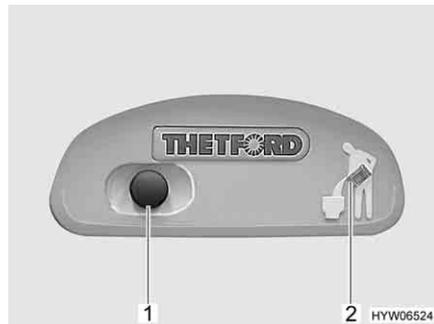
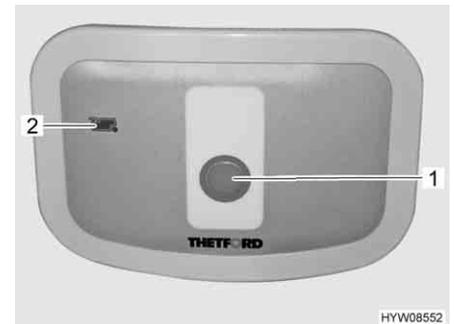

Fig. 252 Flush button/indicator lamp Thetford toilet
Fig. 253 Flush button/indicator lamp Thetford toilet (alternative)
- For flushing, press the blue flush button (Fig. 252,1 or Fig. 253,1).
The indicator lamp (Fig. 252,2 or Fig. 253,2) lights up whenever the sewage tank has to be emptied.